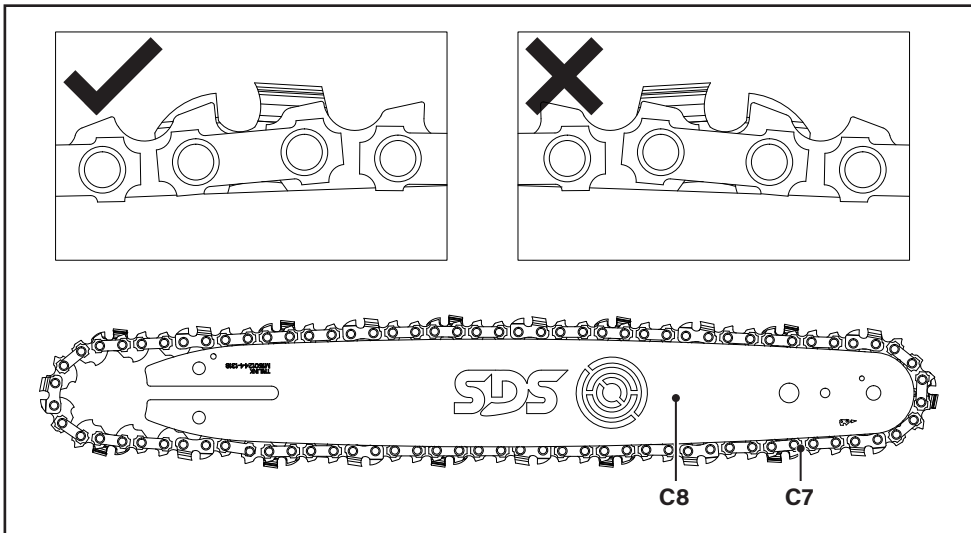

Fig. 3
- Identify the correct saw chain direction. Start to wrap the saw chain (C7) around the guide bar (C8) (Fig. 3).